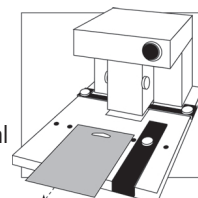

Fig. 2
- 3 - Push the operating switch button (or optional foot switch). [Figure 2]